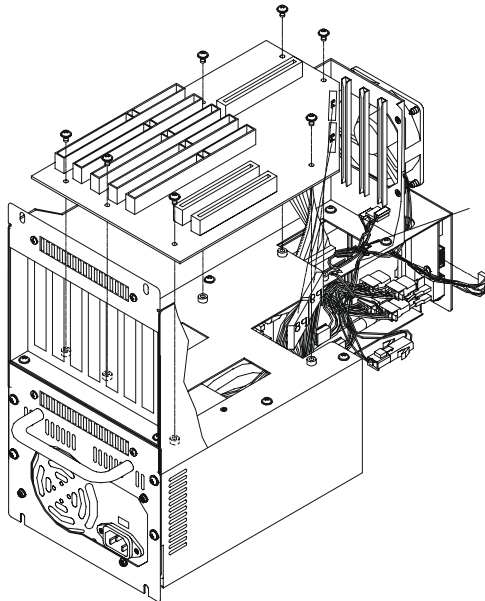

Figure 3.1: Removing the passive backplane
4. Detach the P8 and P9 power connectors by pulling them down. Unscrew the seven screws and detach the backplane. Our workstations are equipped with programmable function keys (macro keys) that greatly enhance the operator interface. Macros, which are far more powerful than batch files, automate the most commonly used input sequences. They extended their functional reach to within application programs. (See Fig. 3-1.)